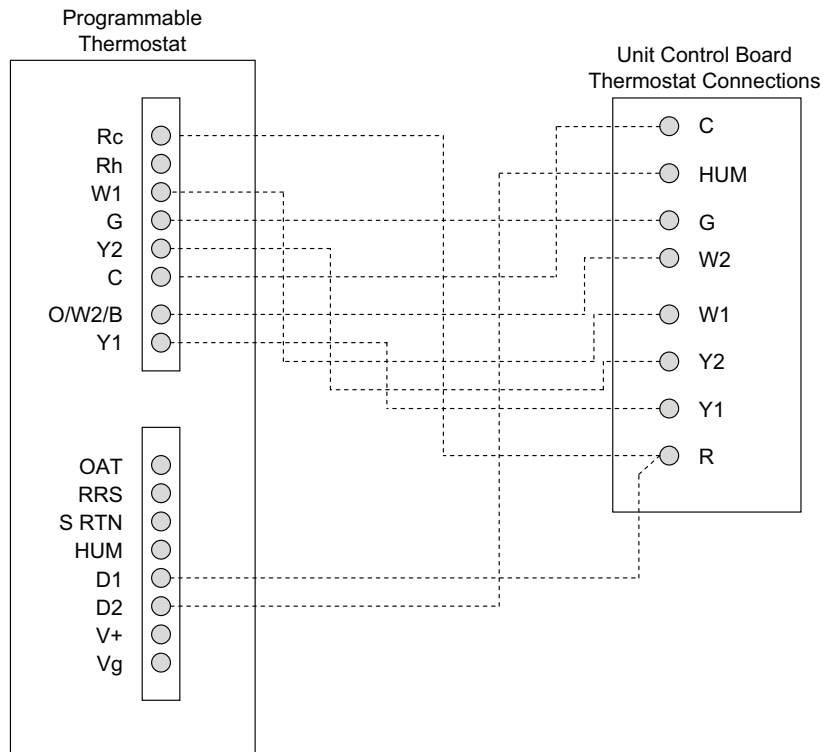

Fig. 56 — 50FE-*20-30 Unit with Humidi-MiZer Adaptive Dehumidification System with Edge® Pro Thermostat Device
3. The Thermidistat has dry contacts at terminals D1 and D2 for dehumidification operation (see Fig. 56). Connect D1 to the R terminal on the UCB. Connect D2 to the HUM terminal on the UCB. Refer to the installation instructions included with the Carrier Edge® Pro Thermidistat device for more information.